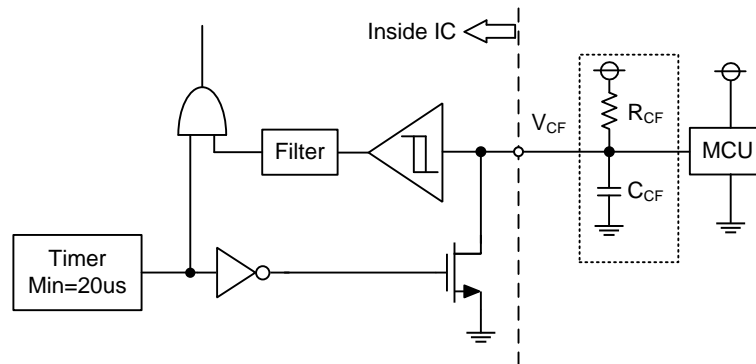

Figure 5. V_{CF} Output Circuit
- (1) If the control GND is connected with the power GND by common broad pattern, it may cause malfunction by power GND fluctuation. It is recommended to connect the control GND and power GND at a single point (N1), near the terminal of the shunt resistor.
- (2) There are two COM pins in the IPM but it is recommended to only use the (15) COM pin to minimize SC detection noise.
- (3) A zener diode D1 (24V/1W) is recommended between each pair of control supply pins to prevent surge destruction.
- (4) Prevention of surge destruction can further be improved by placing the bus capacitor as close to pin P and N1 as possible. Generally a 0.1–0.22 μ F snubber capacitor C3 between the P–N1 terminals is recommended.
- (5) Selection of the R1*C4 filter components for short-circuit protection is recommended to have tight tolerance, and is temperature-compensated type. The R1*C4 time constant should be set such that SC current is shut down within 2 μ s; (typically 1.5–2 μ s). R1 and C4 should be placed as close as possible to the C_{SC} pin. SC interrupting time may vary with layout patterns and components selection, therefore thorough evaluation in the system is necessary.
- (6) Tight tolerance and temperature-compensated components are also recommended when selecting the R2*C5 filter for V_{OT}. The R2*C5 time constant should be set such that V_{OT} is immune to noise. Recommended values of R2 and C5 are 2k Ω and 10nF.
- (7) To prevent malfunction, traces A, B, and C should be as short as possible.
- (8) It is recommended that all capacitors are mounted as close to the IPM as possible. (C1: electrolytic type with good temperature and frequency characteristics. C2: ceramic type with 0.1–2 μ F, good temperature, frequency and DC bias characteristics.)
- (9) Input drives are active-high. There is a minimum 3.5kΩ pull-down resistor in the input circuit of IC. To prevent malfunction, the layout to each input should be as short as possible. When using RC coupling circuit, make sure the input signal levels meet the required turn-on and turn-off threshold voltages.
- (10) V_{CF} output is open drain type. It should be pulled up to MCU or control power supply (max= 5±0.5V), limiting the current (I_{CF}) to no more than 1mA. I_{CF} is estimated roughly by the formula of control power supply voltage divided by the pull-up resistor R3. For example, if control supply is 5V, a 10kΩ (over 5kΩ) pull-up resistor R3 is recommended.
- (11) If only a pull-up resistor R3 of 10kΩ connected to V_{CF} pin, the fault output pulse width is fixed at minimum 20us. If a capacitor C6 is connected with a pull-up resistor R3, the fault output pulse width can be controlled according to the resistor value and capacitor value. For the design guide, please refer to the Figure 5.
- (12) Direct drive of the IPM from the MCU is possible without having to use opto-coupler or isolation transformer.
- (13) The IPM may malfunction and erroneous operations may occur if high frequency noise is superimposed to the supply line. To avoid such problems, line ripple voltage is recommended to have $dV/dt \leq \pm 1V/\mu s$, and $V_{ripple} \leq 2V_{p-p}$.
- (14) It is not recommended to use the IPM to drive the same load in parallel with another IPM or inverter types.